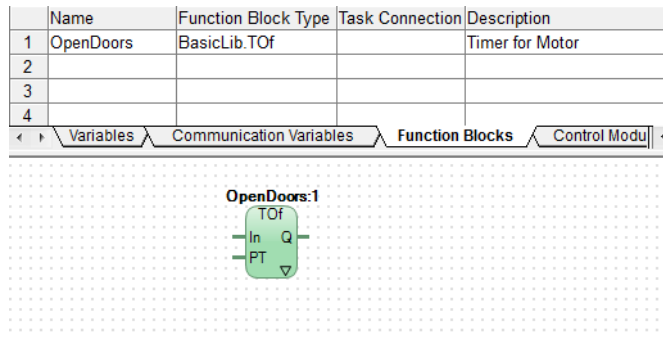

Figure 32. Declare TOF Function Block Type in Motors\_Doors page
5. Click **Insert**, and then click **Close**. **OpenDoors** function block is inserted as in the Figure 32.